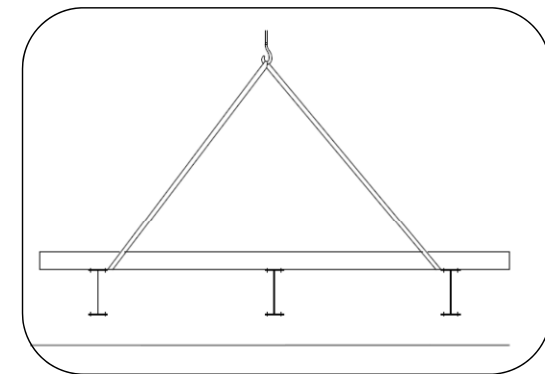

Fig. 1 – Crane install
1. Lift unit with proper equipment such as a crane, see Fig. 1. Attach supports with M14 anchors (included)